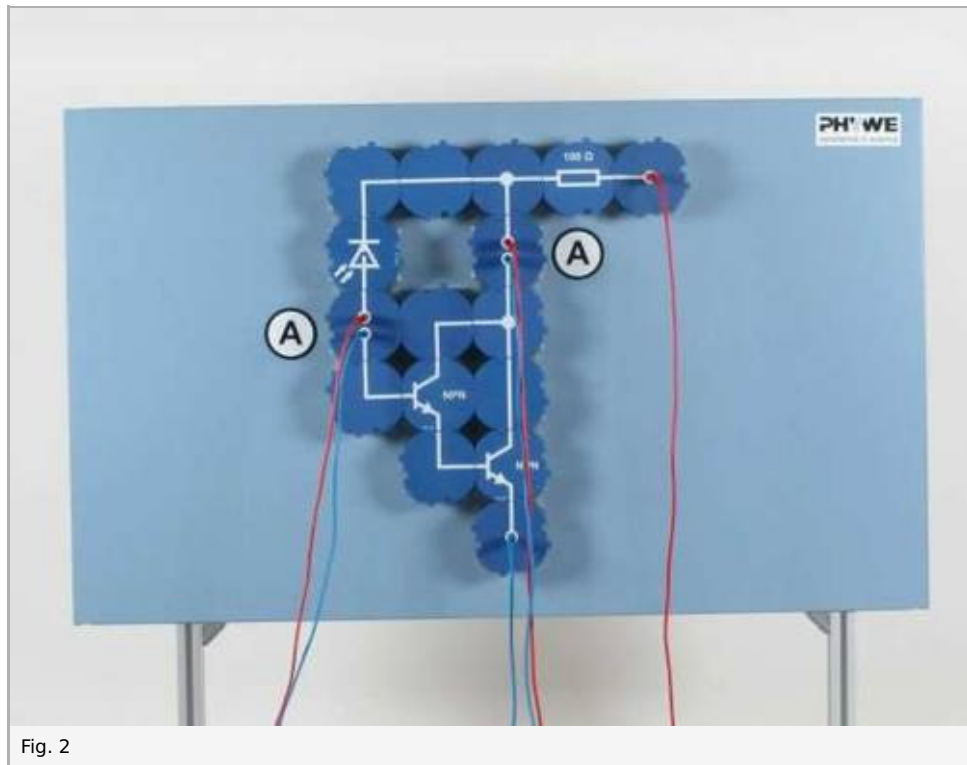

Fig. 2
- **Extend the experimental set-up as shown in Fig. 2 and switch over to the 100 mA measurement range for the collector current  $I_{CD}$**